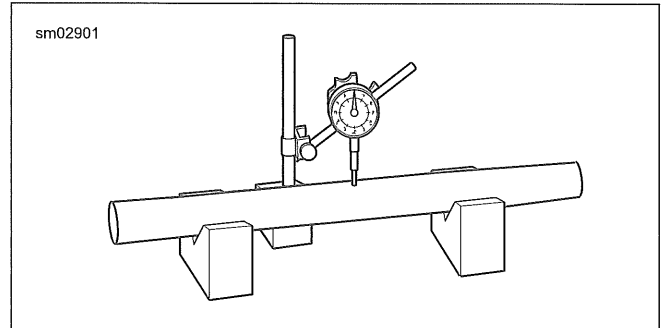

Figure 3-75. Measure Fork Tube Runout
6. See Figure 3-75. Check runout with a dial indicator.